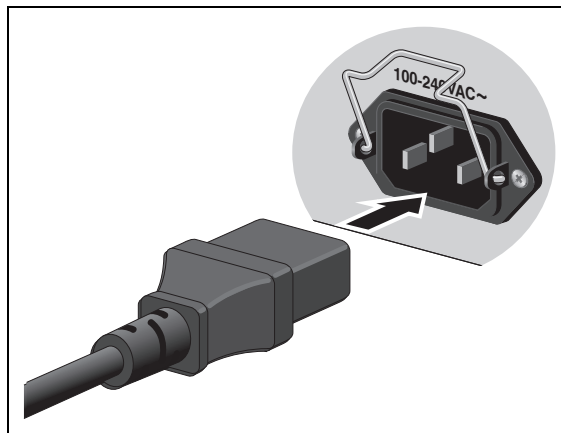

Figure 31. Connecting the AC Power Cord
2. Plug the power cord into the AC power connector on the rear panel of the unit, as shown in Figure 31. Lower the power cord retaining clip to secure the power cord to the unit.